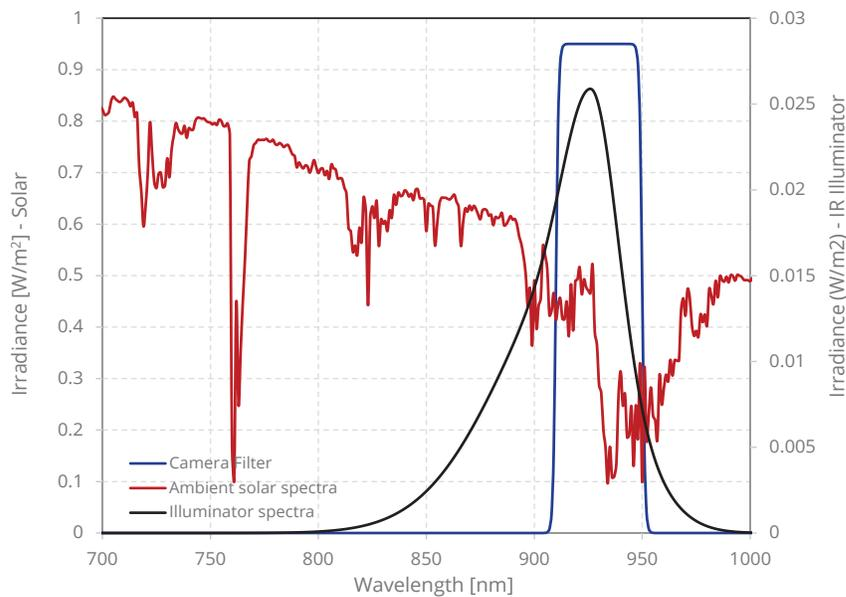

Figure 7. Example of a camera band filter matching illuminator spectrum and ambient solar spectrum.
- The width of the filter should be chosen to maximize the direct IR to ambient light ratio falling on the sensor, including camera sensitivity in all operating conditions. This depends on the ambient spectra, IR spectra and the band width of the band pass filter (see Figure 7)
Figure 7 below is an example of choosing the width of the band pass filter for an application where ambient light is solar light. The position and width of the band pass filter is selected such that the ratio of IR to ambient light is at maximum. The band pass filter may block IR illuminator spectrum to where the ambient spectrum also has high proportion, which improves the overall IR to ambient ratio.